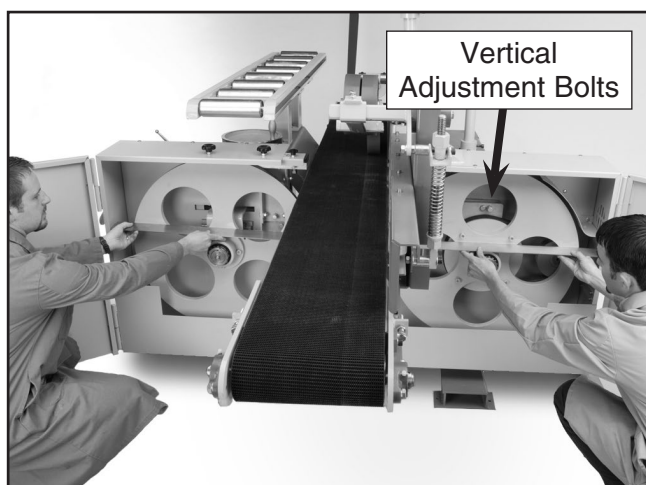

Figure 54. Straightedge placement.
6. Loosen the lock bolts and the jam nuts on the vertical adjusting bolts at the top of the adjusting plate shown in **Figure 54**.
8. Place the straightedge across the wheels, as shown in **Figure 54**, and examine how the wheels line up with each other.